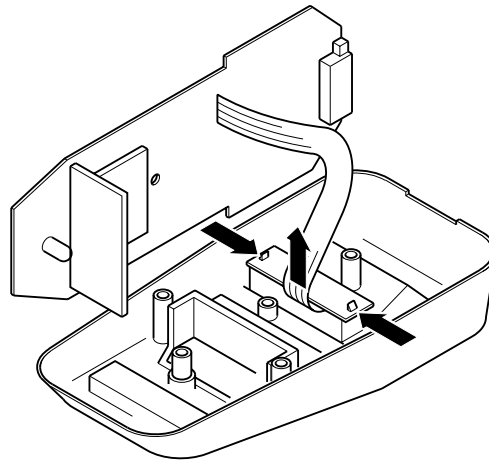

Figure 17: Charger C removal 2
5. Figure 17 Disconnect and remove the charger C